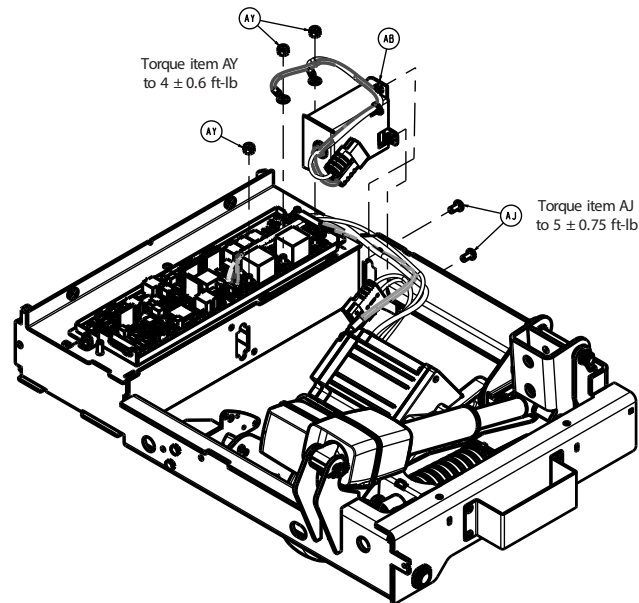

Figure 72 – Removing the motor power wire
18. Using a ratchet and 7/16" socket, remove the nut (AY) that secures the motor power wire to the **Zoom** control (Figure 72). Save the nut.